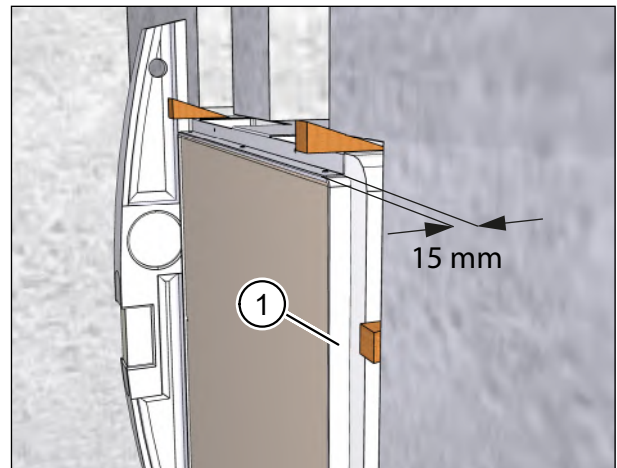

Fig. 24: Depth of plastering trim 15 mm
The plastering trim is 15 mm deep (see Fig. 24).
- ▶ If the interior wall is not perpendicular or flat, align the front surface of the plastering trim (item 1 in Fig. 24) parallel to a plaster stop bead running vertically.